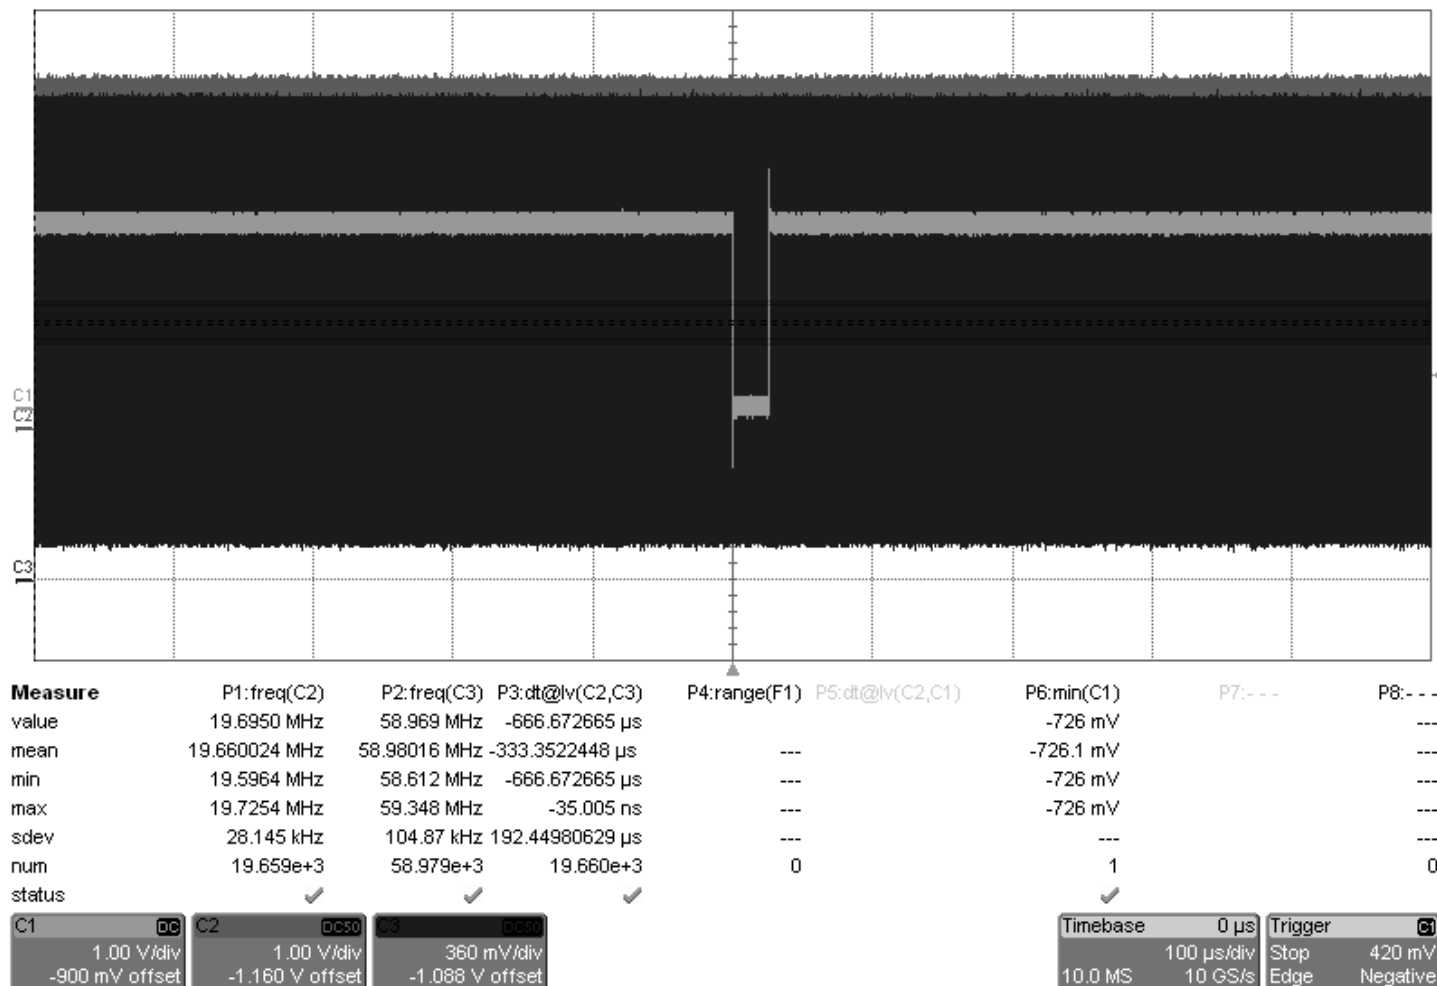

Figure 8: IDT5T2010 Lock detect pin test with 1.0 rad phase modulation
1. The lock detector is sensitive to high jitter. It was implemented as a phase lock detector and not as a frequency lock detector. As figure 8 shows, excessive jitter (more than .2UI) will cause the lock detector to switch rapidly between the HIGH and LOW states. Without external qualification, the LOCK signal should only be used as an indication of jitter in the system, not as an indication of failure.
3. Figure 8 shows a "glitch low" on the LOCK signal of about 200us. Note that 12ns of jitter on a 19.66MHz clock is highly unusual. For a frequency lock detector, use as wide a glitch filter as feasible.